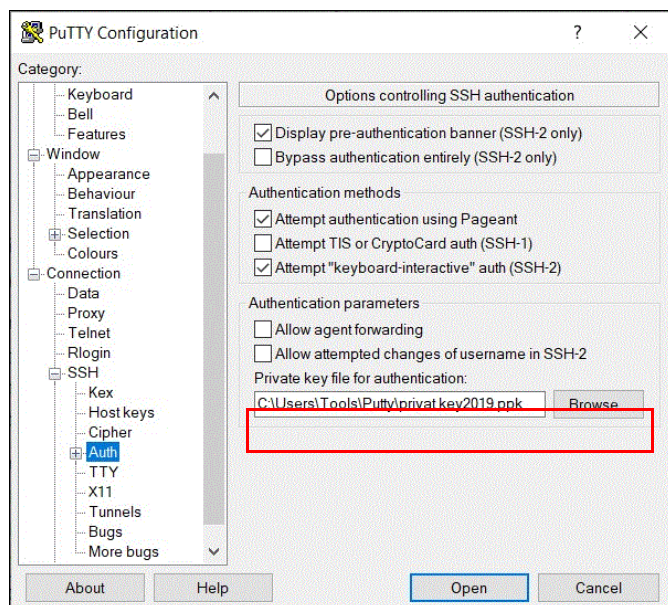

Figure B-11 SSH authentication
6. In the “Private key file for authentication” field in Figure B-11, browse to or enter the fully qualified directory path and file name of the SSH client private key file that was created (in this example, C:\Users\Tools\Putty\privatekey2019.ppk is used).